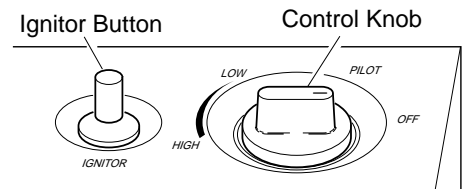

Figure 16 - Control Knob In The OFF Position
3. Turn control knob clockwise to the OFF position (see Figure 16).
4. Wait five (5) minutes to clear out any gas. Then smell for gas including near the floor. If you smell gas, **STOP!** Follow "B" in the safety information at left. If you don't smell gas, go to the next step.
5. Press in control knob and turn counterclockwise to the PILOT position. Keep control knob pressed in for five (5) seconds (see Figure 16).